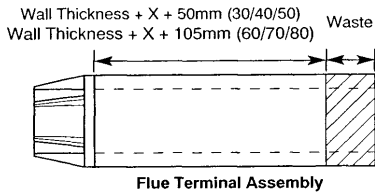

Fig. 43
5. Take the **Flue Terminal Assembly** and measure from the terminal end the dimension below (Fig. 43). Cut the waste off the plain end.